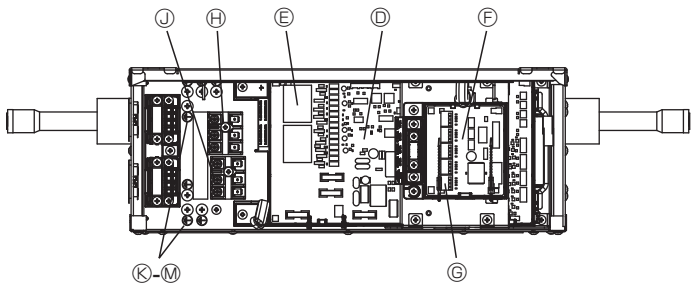

Fig. 7-4
- (4) Firmly connect each wire to the appropriate terminal block, and pass each wire through each clamps. (Fig. 7-4 and 7-5)